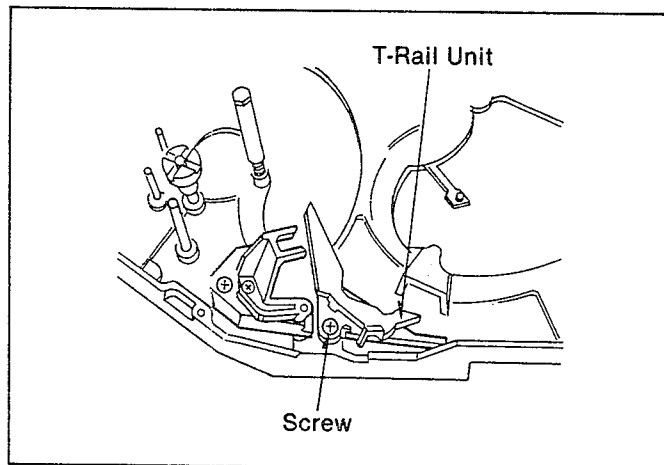

Fig. M1
- (1). Install a T-Rail Unit and Lock Base Unit as shown in Fig. M1 and M2.